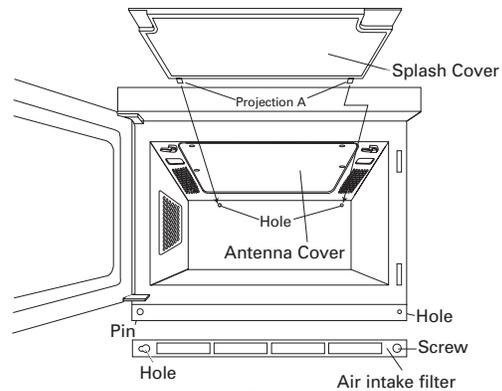

Fig.2
Remove the splash cover as shown in Fig. 2 and separate the frame from the cover.
**Remember to unplug the power cord.** Turn the 2 tabs holding the oven cavity ceiling as shown in Fig. 2, then gently pull the cover downwards to separate from the oven cavity ceiling. Then separate the cover from the frame. It is held in place by 4 catches.
**Remember to unplug the power cord.** Replace the cover in the frame. Insert projection A (2) into the 2 holes in the rear cavity wall and then insert projection B (2) into the 2 holes in the oven cavity ceiling as shown in Fig. 2. Then slide the tabs in place.